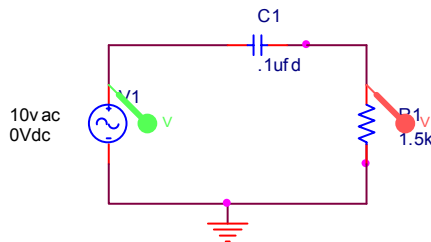
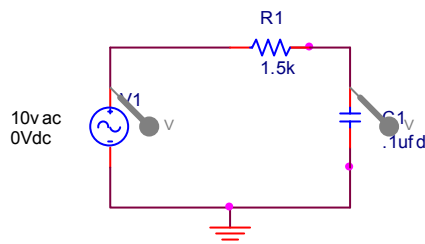

Fig. 1
Fig. 2
- Design a high pass filter Fig. 1 which has a -3dB point at 1 kHz. Use a .1ufd capacitor.
- Exchange C1 with R1 (Fig. 2) and measure the voltage across C1 and V1 as you did above. Do the sweep and change the graph to dB as in 2. What type of filter? ans:
2. Amplitude (dB) Fig 1 Calculated _____ PSpice _____ % ____ Type _____
3. Amplitude (dB) Fig 2 Calculated _____ PSpice _____ % ____ Type _____
4. Explain why in Fig. 1 we measured across R, then in Fig. 2 across C, and had a different type of filter?
1. Build the high pass filter designed (Fig. 1) in the Pre-Lab
3. Build the low pass filter designed (Fig. 2) in the Pre-Lab.